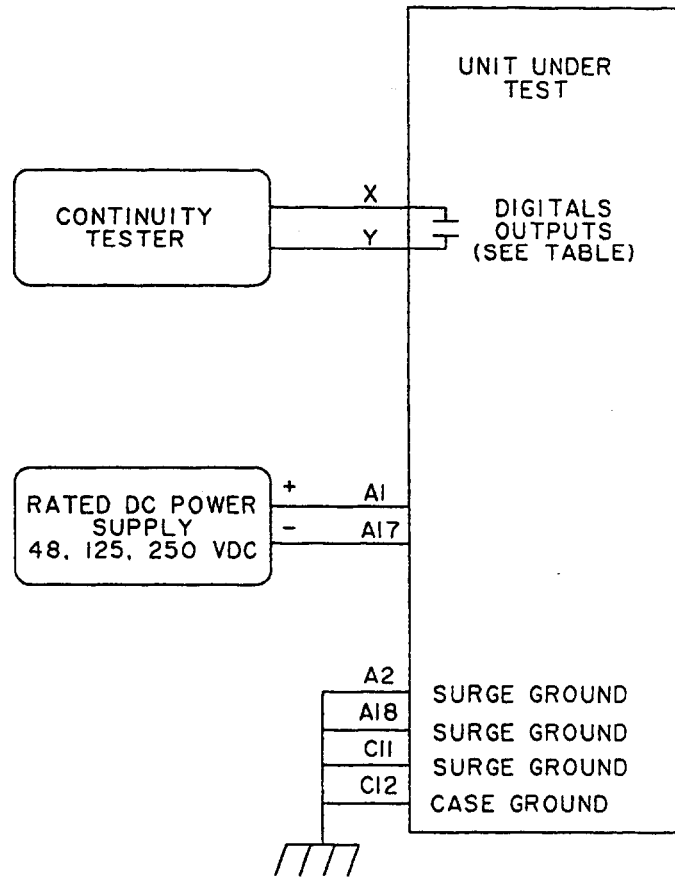

Figure 4-1. Digital output test connections (drawing #0357A3044, sh. 1).
1. Connect the relay as shown in Figure 4-1.